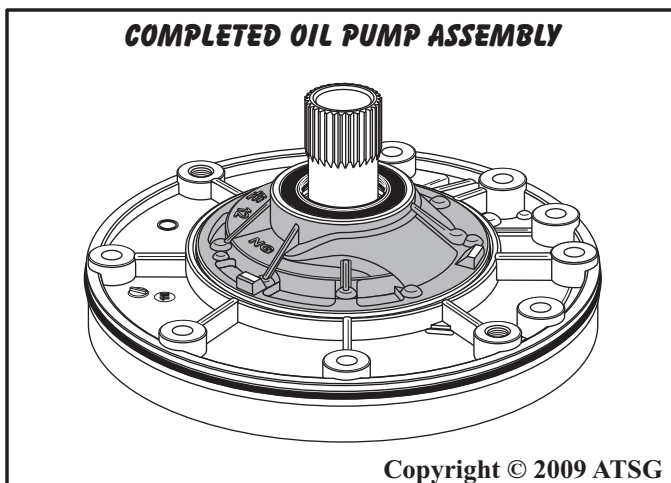

Figure 94
17. Set the completed oil pump assembly aside for the final assembly process (See Figure 94).